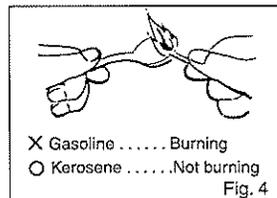

Fig. 4
- Use only clear or red colored **No. 1-K kerosene** for fuel. Do not use **GASOLINE** or **LIGHT OIL** or any other fuel except No. 1-K kerosene. Specific gravity of kerosene is about 0.8, and its ignition point is more than 104°F (40°C). To distinguish kerosene from others, take half a teaspoon of fuel and bring it close to a lit match. If the fuel has a low ignition point (such as gasoline or thinner), it will burn, but if it is pure kerosene (No. 1-K kerosene), it will not. (Fig. 4)